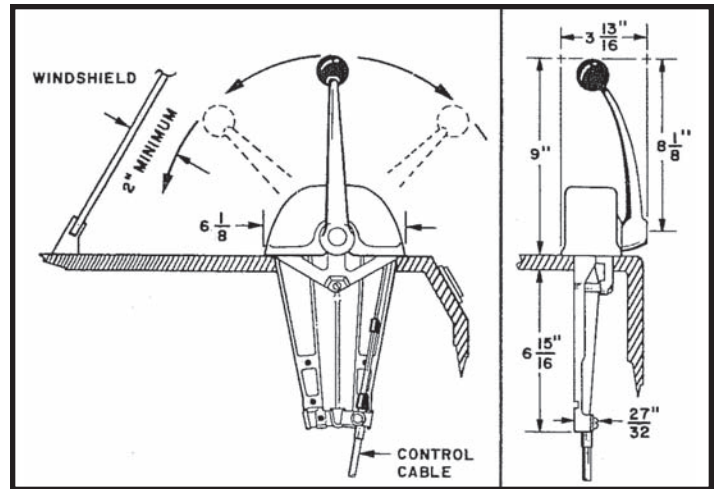

FIGURE 2
1. Using the template provided, determine the proper position for the control head. Clearance must be allowed for full forward and reverse movement of the hand lever. (See Figure 2.)